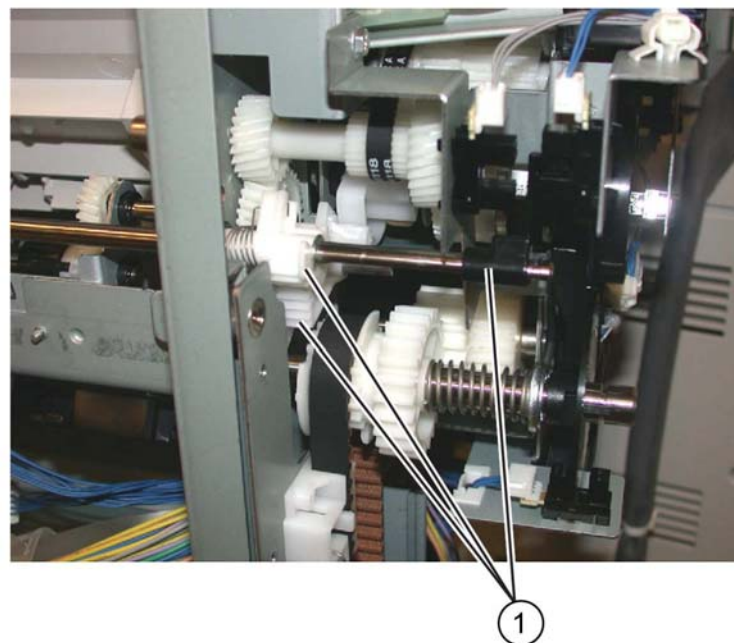

Figure 6 Gear orientation
NOTE: Note the position and orientation of the set clamp shaft gear and the cam gear that it engages (1). When installing the set clamp shaft, these gears must engage in the same manner, Figure 6.